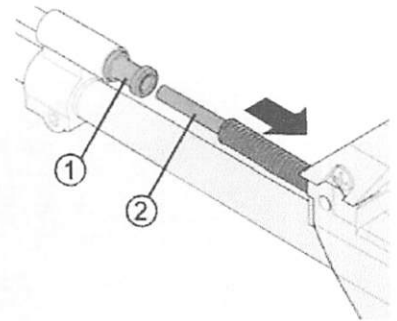

Fig. 39 Replacement of push rod
- ⇒ Remove gas piston (Fig. 39/1) and check its state.